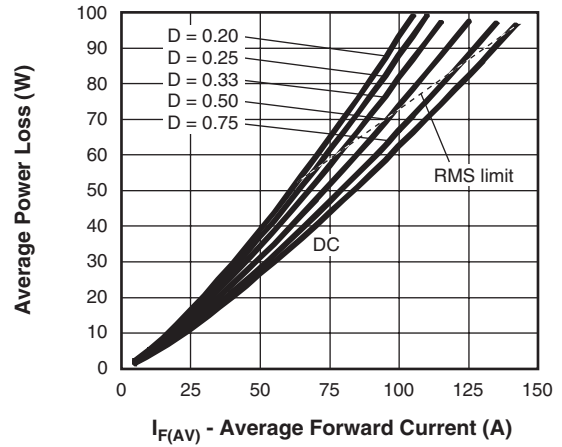

Fig. 6 - Forward Power Loss Characteristics (Per Leg)
- (1) Formula used:  $T_C = T_J - (P_d + P_{d_{REV}}) \times R_{thJC}$ ;
- Pd = Forward power loss = IF(AV) × VFM at (IF(AV)/D) (see fig. 6);